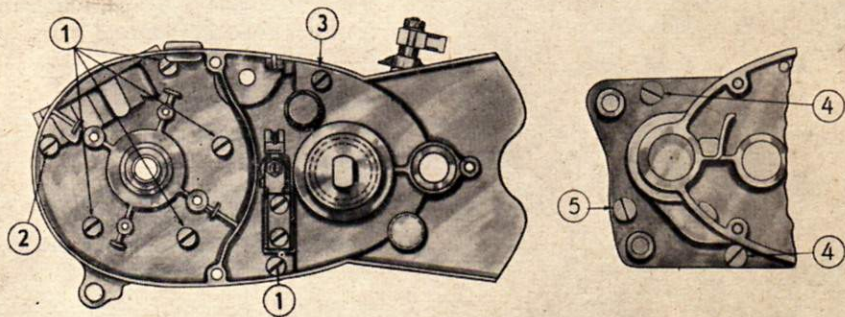

Fig. 45 Diagram showing position of screws
d) Insert all screws securing crankcase into the positions illustrated in fig. 45 and tighten thoroughly.
8. Insert screws securing crankcase into the positions shown on fig. 45 and tighten thoroughly.